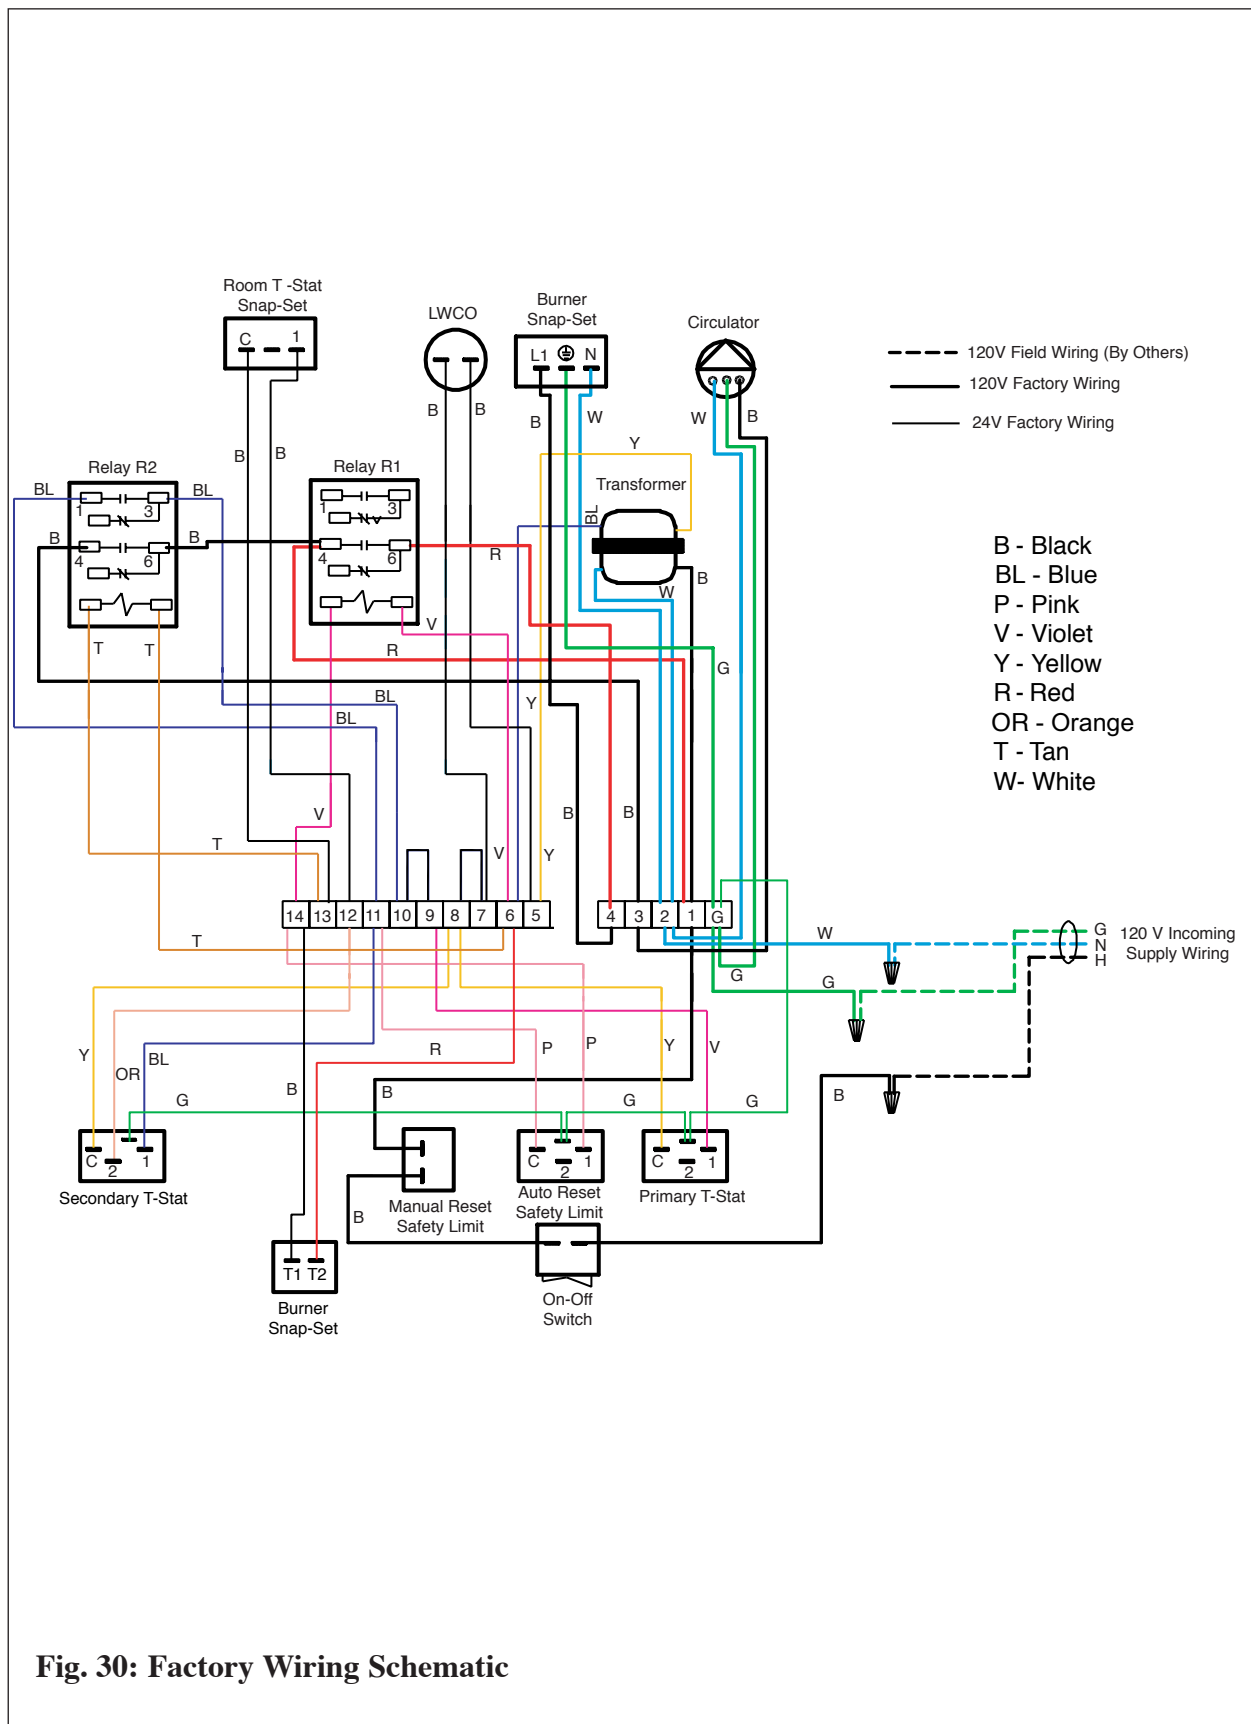

Fig. 30: Factory Wiring Schematic
All electrical contacts shown in Figures 30 & 31 pages 43 & 44 do not have electrical power applied. Shown as “off-shelf” condition.
2. Remove the factory jumper across terminals 9 and 10 see Figs. 30 & 31, on pages 43 & 44. Connect the outdoor limit control to those terminals.